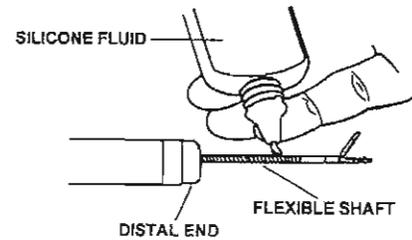

Figure 2-9. Channel lubrication.
(1) Insert the biopsy forceps into the channel through the automatic aspirator until it protrudes at least 5 centimeters (2 inches) from the distal end of the fiberoptic bronchoscope.
(2) Apply silicone fluid (fig 2-9).
(3) Retract the biopsy forceps slowly in small increments with a pulling-and-pushing motion to coat the channel.